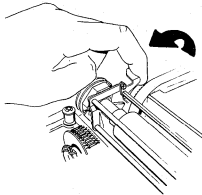

Fig. 49—Pressure Roller Release Lever
9.01 Pull pressure roller release lever up and to the front (Fig. 49).